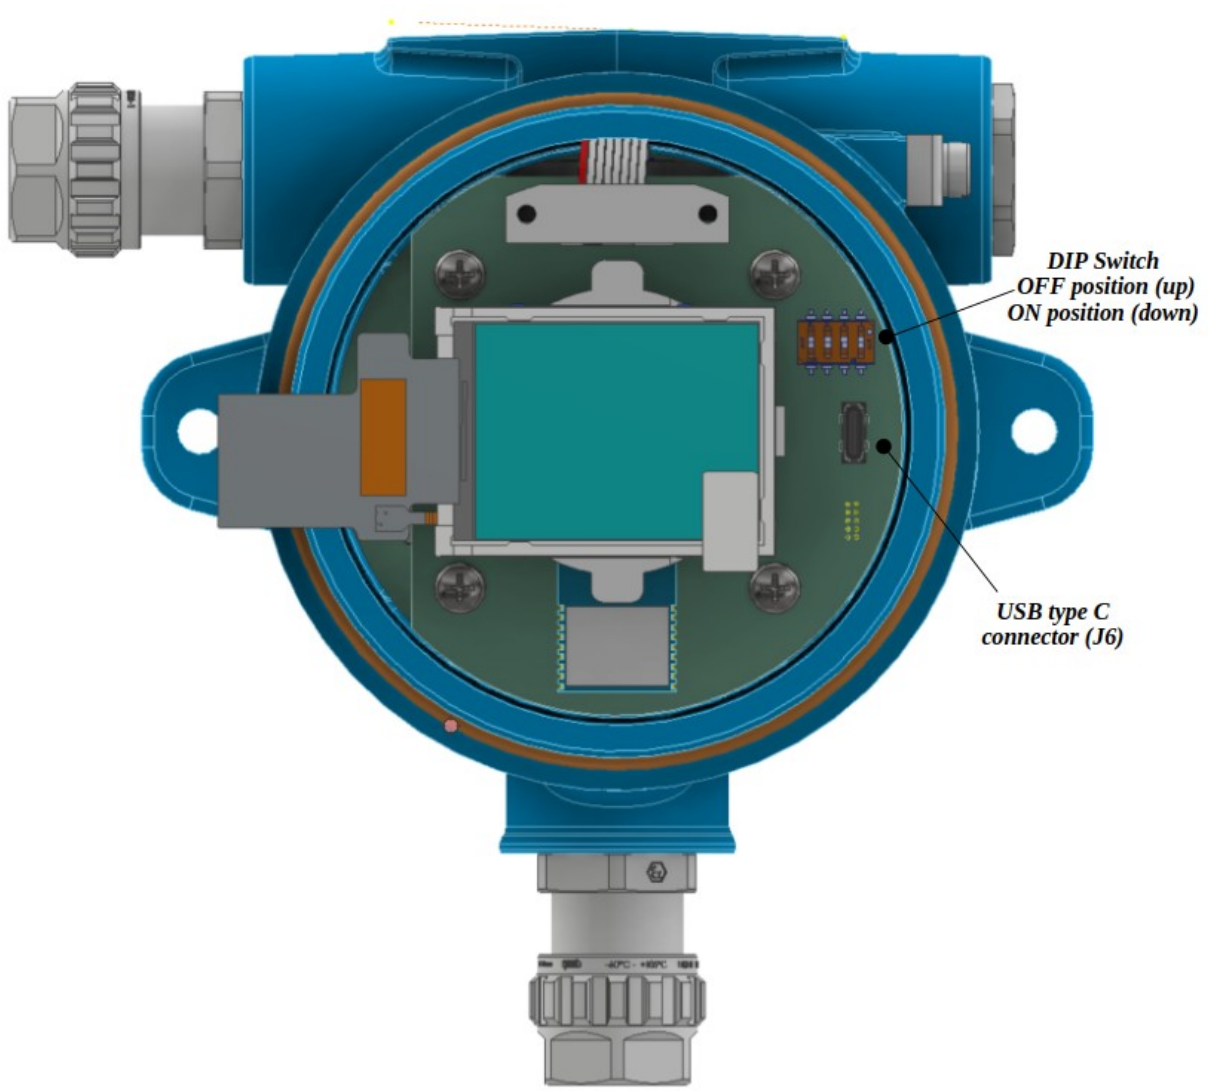

Figure 11 - Programming connector
- Connect the PC to the FLD with the USB A – USB Type C cable (shall be a cable enabled for data link) to the USB port (J6) (Figure 11);